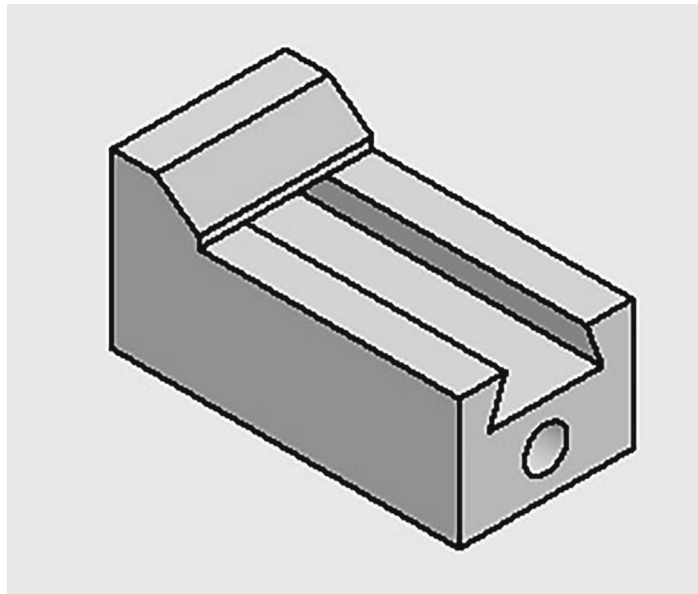

Figure 27
32. The isometric view will become a miniature 3D solid model as shown in Figure 27.